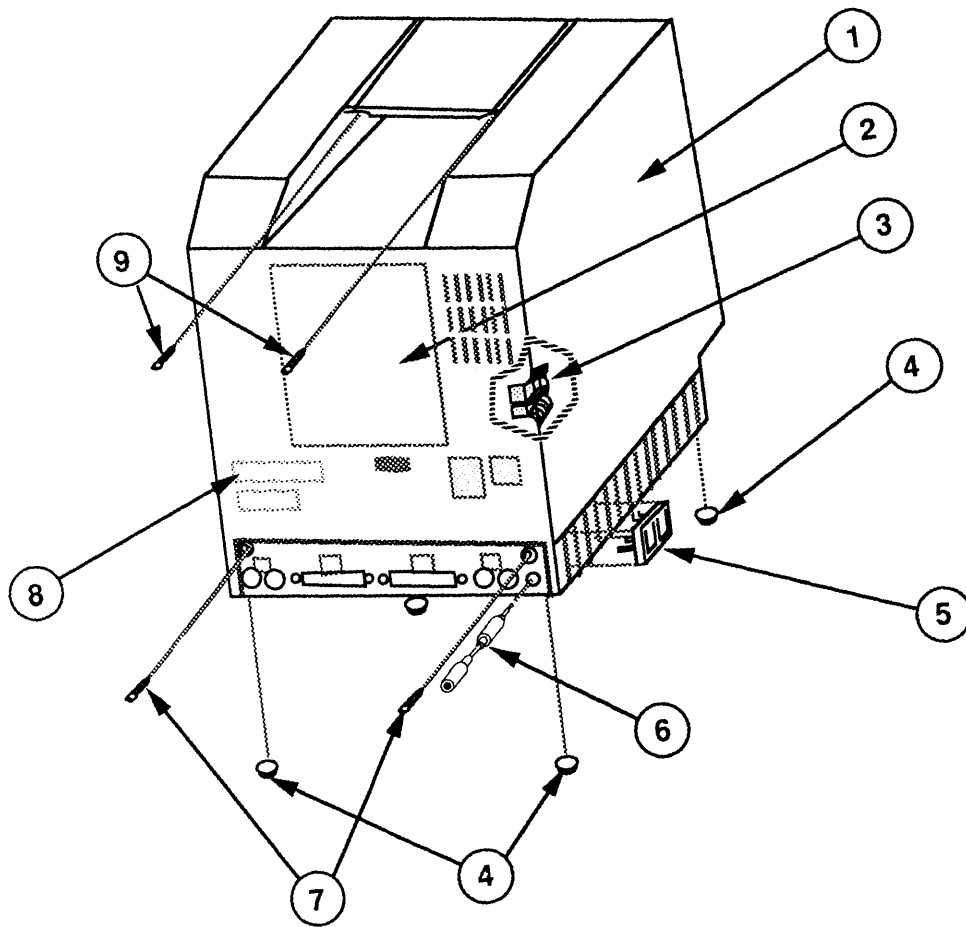

FIGURE 3
- IPL.7 External Rear Housing (Figure 3)
□ EXTERNAL REAR HOUSING (Figure 3)